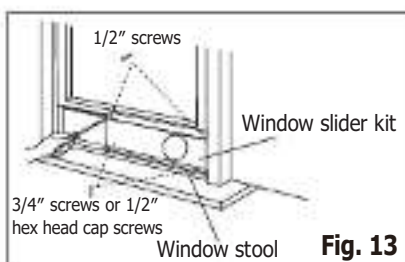

Fig. 13
3. Close the window sash securely against the window slider kit. (Fig. 13)
4. Drive two 1/2" screws to secure the window slider kit to the window sash. (FIG. 13)
5. Secure the window slider kit to the window stool (FIG. 13):